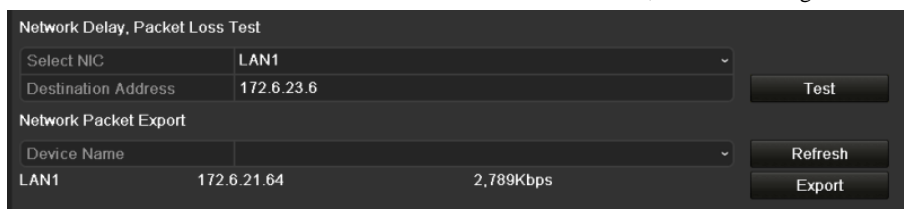

Figure 11. 34 Network Detection Interface
2. Click the **Network Detection** tab to enter the Network Detection menu, as shown in Figure 11. 34.